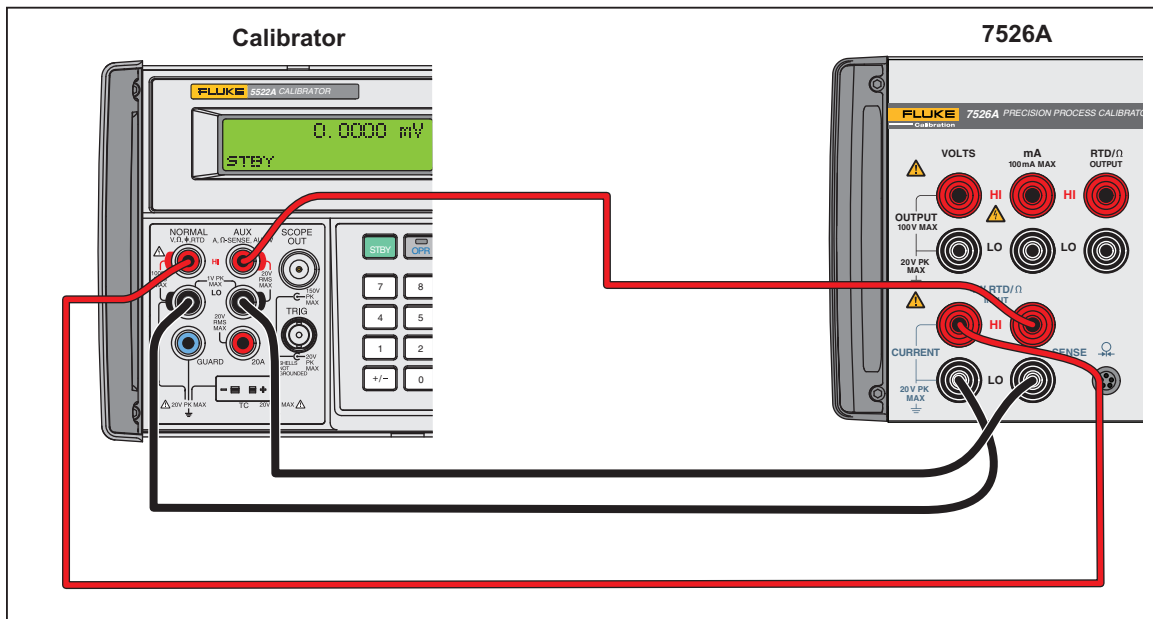

Figure 15. 100 Ohms Measure, Resistance Measurement Adjustment Connections
The subsequent procedure uses the Fluke 5522 for ohms source to adjust the Product reading. See Table 3 for the test equipment used for this procedure. See Figure 15 for connections.
2. For the 5522A connections, see Figure 15 for connections.